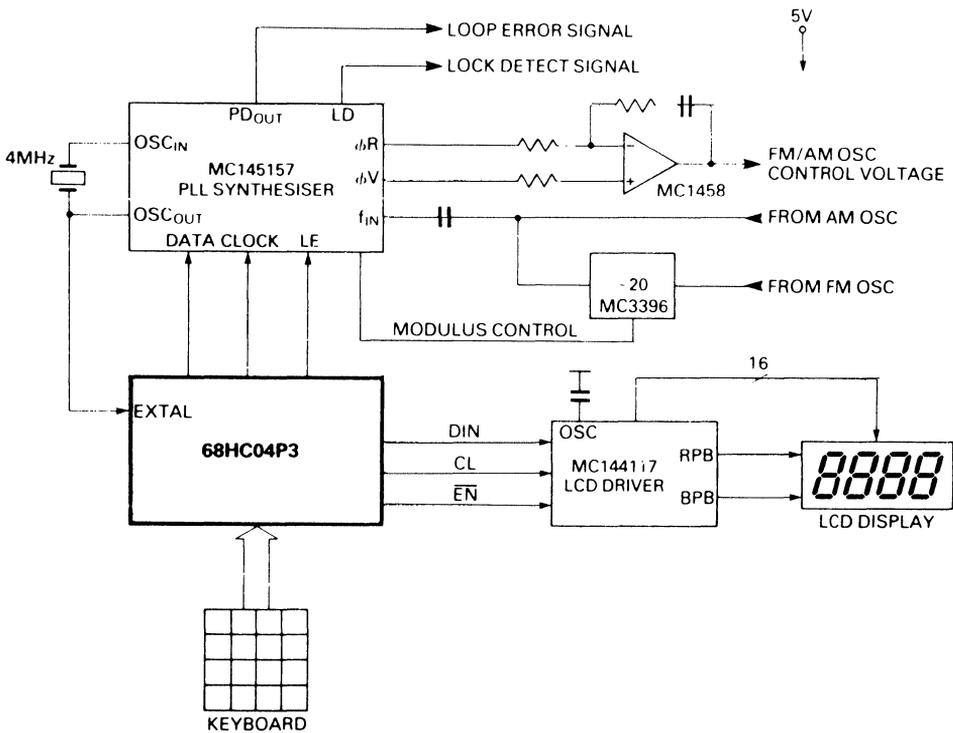

Figure 6.2. AM/FM Radio Synthesiser
6.2.2 AM/FM Radio Synthesiser (Fig. 6.2)